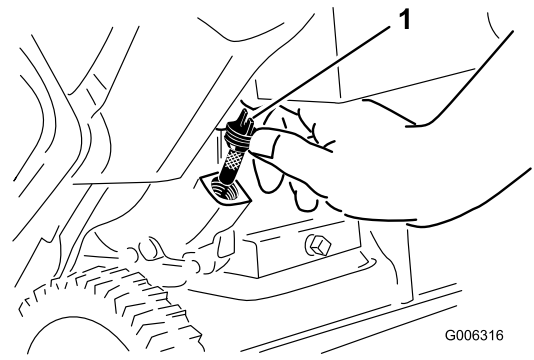

Figure 28
6. Clean around the oil-fill cap (Figure 28).
7. Unscrew the oil-fill cap and remove it (Figure 28).